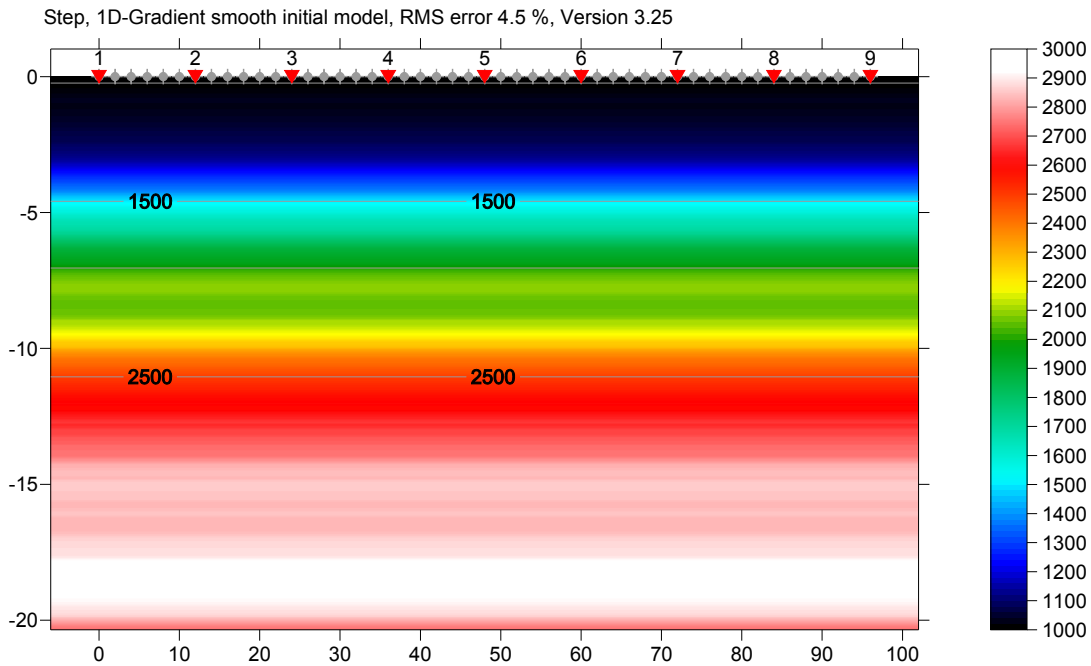

Fig. 6 : 1D-gradient starting model, obtained with *Smooth invert|WET with 1D-gradient initial model* and default settings
- confirm prompts to obtain 1D starting model as in Fig. 6